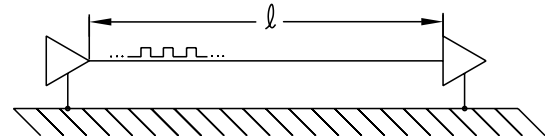
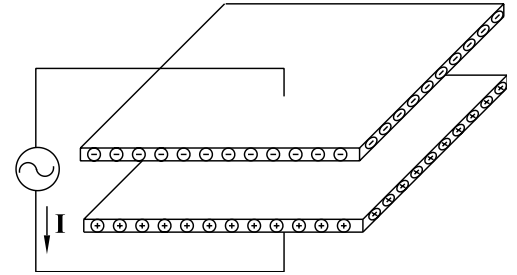
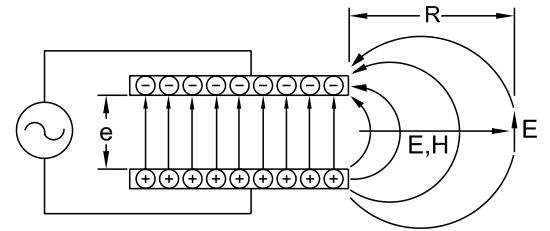

Figure 1
Figure 3
Figure 4
A radiated electromagnetic (EM) wave is generated by the action of driving a current through a wire. An example is that of Figure 1 which represents a sending/receiver circuit on a PC card.
The undergraduate courses on EM theory introduced the concept of an EM wave by using Maxwell's derivation of displacement current. (i.e., driving a pair of parallel plates with an AC voltage source as illustrated in Figure 3.) The current that flows through the wire comes from the top plate and is stored in the bottom plate. The over-presence of the electrons on the bottom plate is illustrated by  $\oplus$  and the absence of electrons on the top plate is illustrated by  $\ominus$ . This creates an EM wave which is illustrated in Figure 4. The EM wave, consisting of the straight lines, is classified as a displacement current and is in Amperes per meter squared. The magnitude of the E field is equal to the voltage differential between the plates divided by the distance between the plates in meters. The resultant E field is in Volts per meter (e.g., a set of parallel plates is used to calibrate electric dipole antennas.)
As is illustrated in Figure 4, the lines of flux in the center of the plates are straight and flow from the bottom to the top plate. At the edges they bow out, where the fields or lines of flux repel each other, forcing the bowing. The field that bows out represents a radiated EM wave. The radiated EM wave emanating from the trace of Figure 1 is similar to the radiated EM wave illustrated in Figure 4. The electric "E" field is tangent to the lines of flux (displacement current) as illustrated in Figure 4. The magnetic "H" field is a field perpendicular to the displacement current and points out of the paper (right hand rule).
The set of plates as illustrated in Figure 4 produce a wave similar to that of the PC card trace of Figure 1 (and of an electric dipole antenna). If the transmitted power is known, the field strength can be calculated using the dipole antenna equation, i.e.,